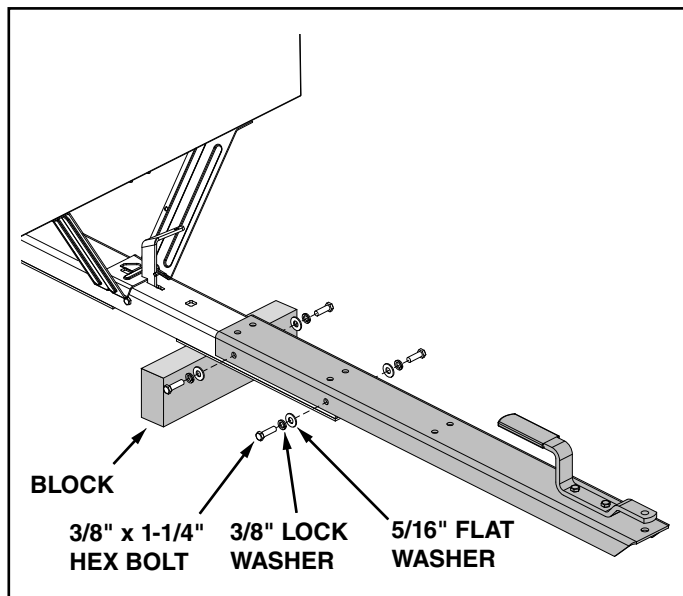

FIGURE 5
- Assemble the front tongue on top of the rear tongue using four 3/8" x 1-1/4" hex bolts, 3/8" lock washers and 5/16" flat washers. See figure 5.